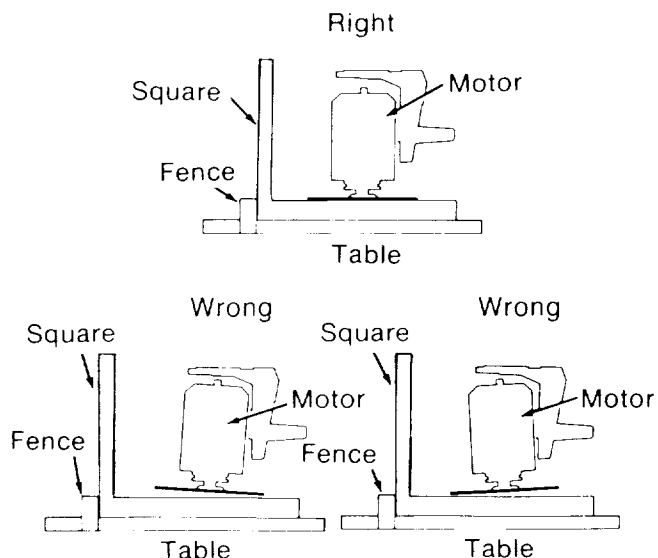

Fig. 80
8. If the square is flush with the *blade* after each rotation (Figure 80) go to step 18, or
If there is a gap between the square and the *blade* after any rotation (Figure 80) go to step 9.